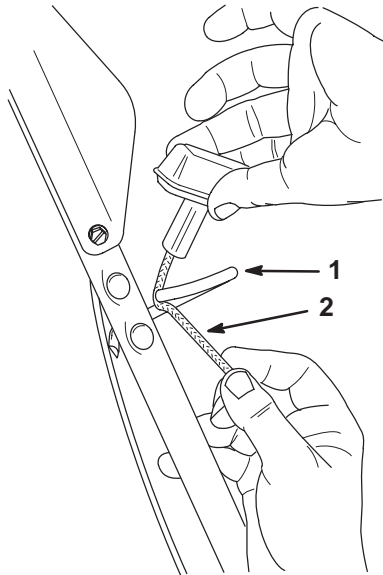

Figure 3
1. Insert the starter rope into the rope guide (Fig. 3).